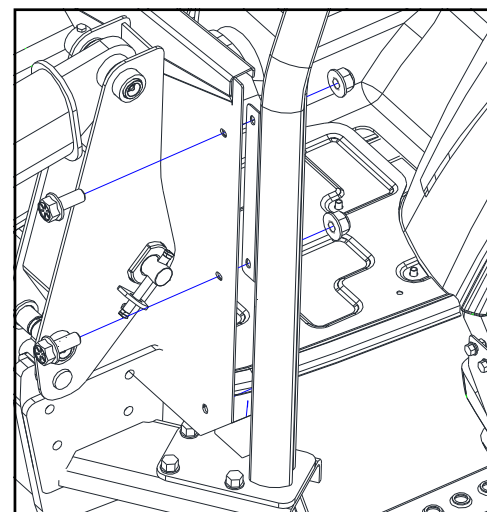

Fig. 4.1
4.1 Per Figure 4.1, fasten the front left leg to the left leg bracket using the hardware listed below. **Install finger tight at this time.**